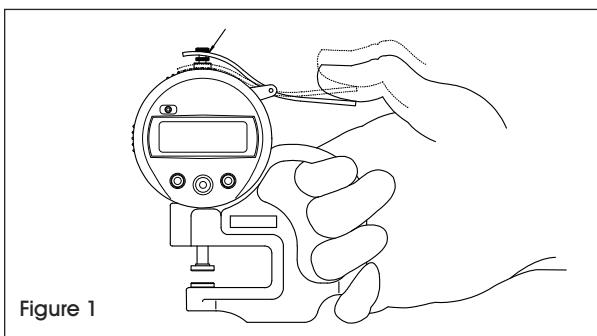

Figure 1
- To operate this instrument, first hold the frame and push down the lifting lever by the thumb. (See Figure 1) The spindle will move up and the contact point will move away from the anvil, providing a space that allows an object to be inserted.